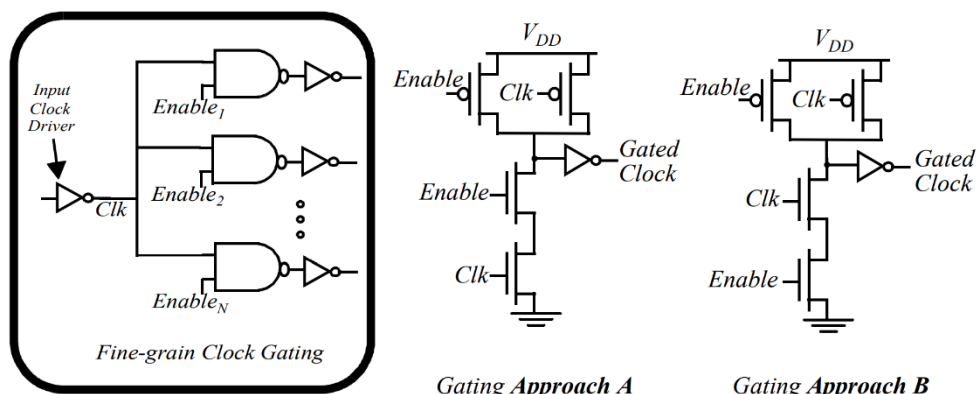

Fig. 5 Jitter in clock gating
- b) Consider a Gated Clock implementation where the clock to various logical modules can be individually turned off as shown in Figure 5. (i.e., Enable₁,..., Enable_N can take on different values on a cycle by cycle basis). Which approach (A or B) results in lower jitter at the output of the input clock driver? (hint: consider gate capacitance) Explain. [6 pts]